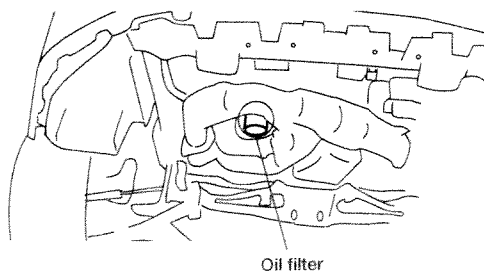

Figure 3-2 (Bottom of engine)
2. Remove the oil filter located in the bottom of the engine. (Figure 3-2)